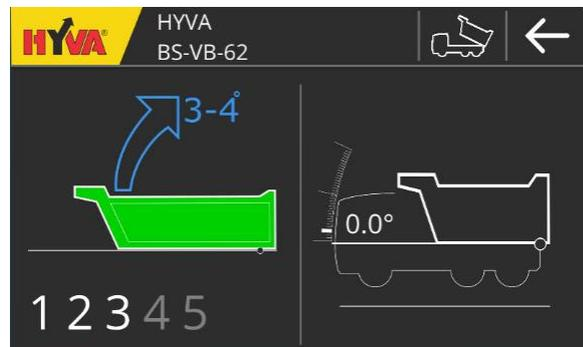

FIGURE 13 PAYLOAD CALIBRATION - STEP 3
Step 3 (Figure 13): tip the filled body till the area stated in the screen [3 – 4°] (when calibration is done, next step appears automatically).